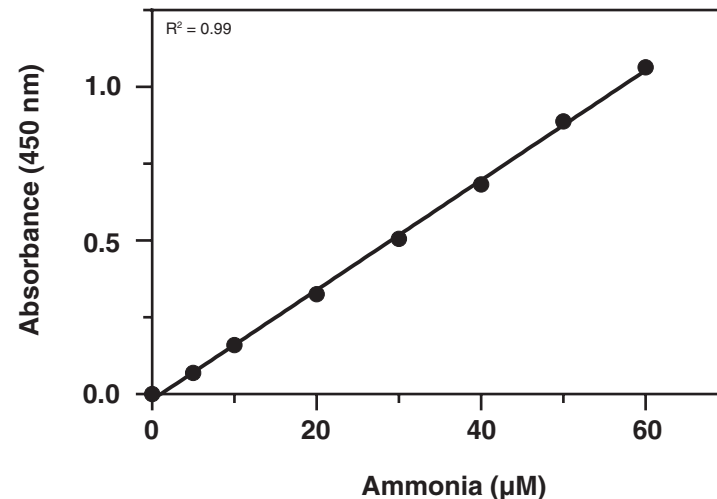

Figure 3. Ammonia standard curve
3. Plot the CSM values of each standard as a function of the final concentration of ammonia from Table 1 on page 12. See Figure 3, on page 15, for a typical standard curve.